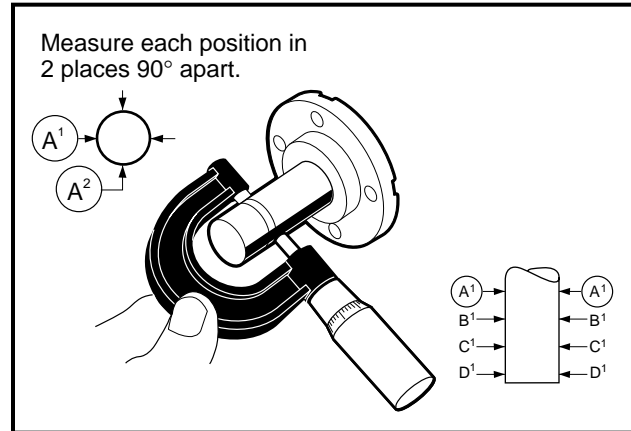

Figure 13-83 Measure O.D. of Counterbalance Guide Shaft
2. With an outside micrometer, measure the outside diameter of the guide shaft surface (**Figure 13-83, Page 13-38**).